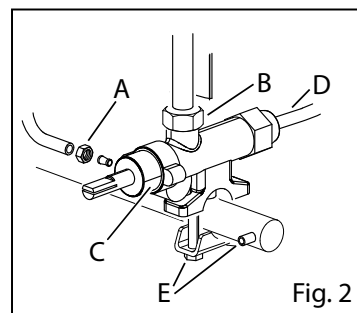

Fig. 2
- Unscrew the nozzles (Fig. 2/B) and screw them in the chosen position
- Remove the power plate (Fig. 2/C) and place it on the corresponding burner
- Unscrew the spacer (Fig. 2/D) and screw it in the chosen flange
- Adjust the minimum by-pass screw (Fig. 2/A)
- Unscrew the gas inlet (e.g. Fig. 2/E) and outlet (Fig. 2/A and B) connections.
- Unscrew the thermocouple (Fig. 2/D)
- Unscrew the thermocouple from the cut-off cock (Fig. 2/D)